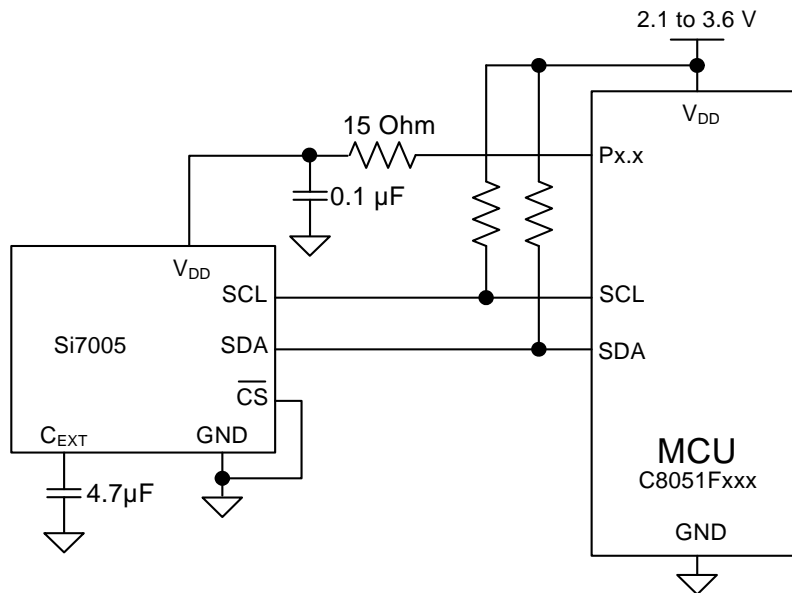

Figure 4. Recommended Connection Diagram for Low-Power Battery Operation
2. Power the Si7005 off of a GPIO as described in "6. Si7005 Connection Diagrams" of the Si7005 data sheet (see Figure 4 below).